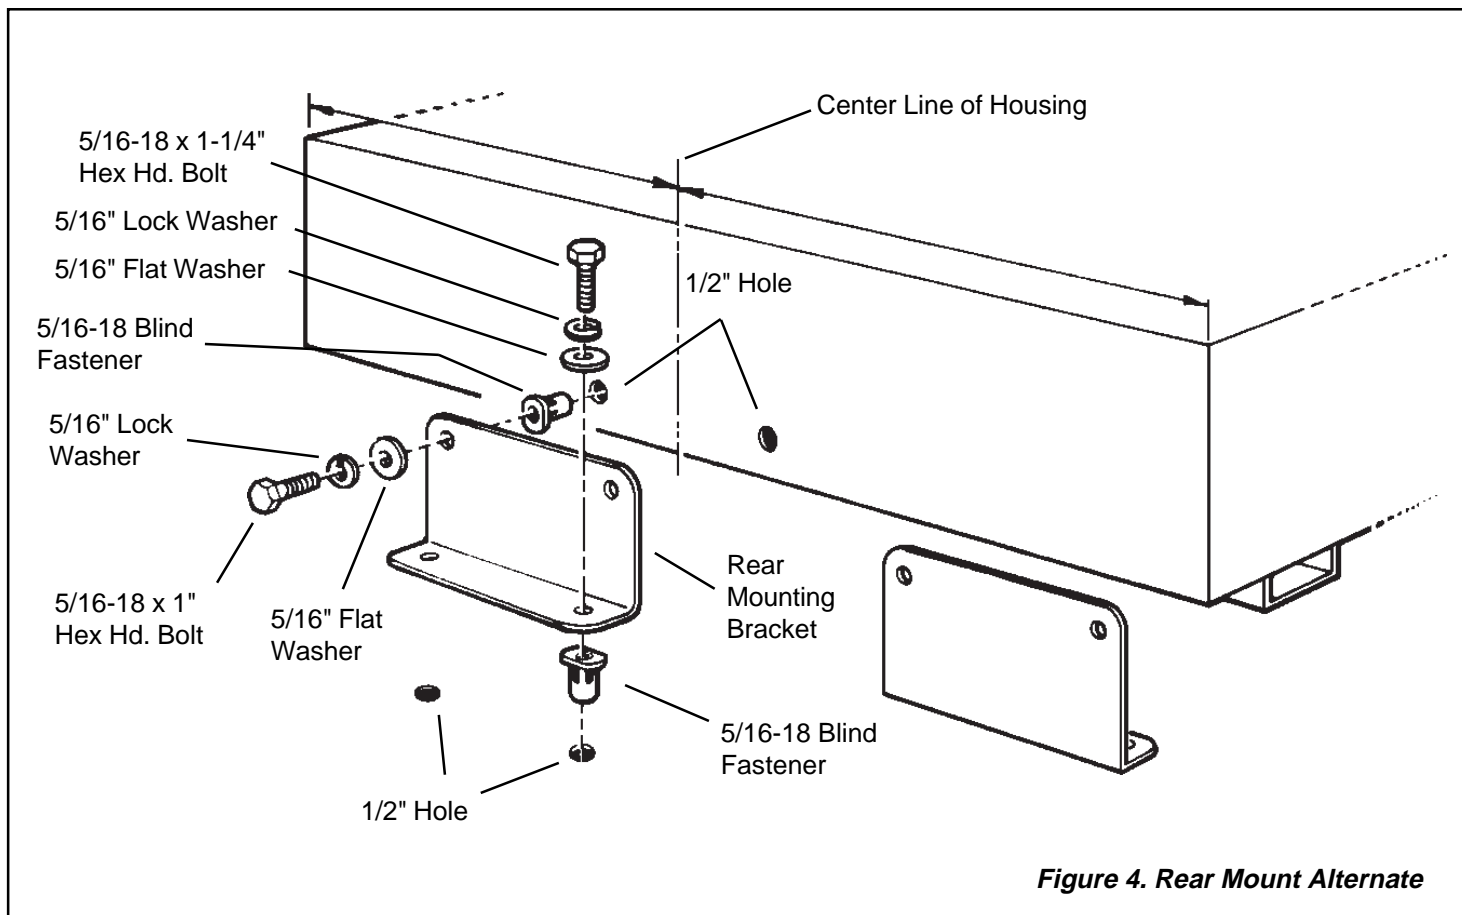

Figure 4. Rear Mount Alternate
2. As with *Figure 4.*, the bracket will be mounted to the bottom first.